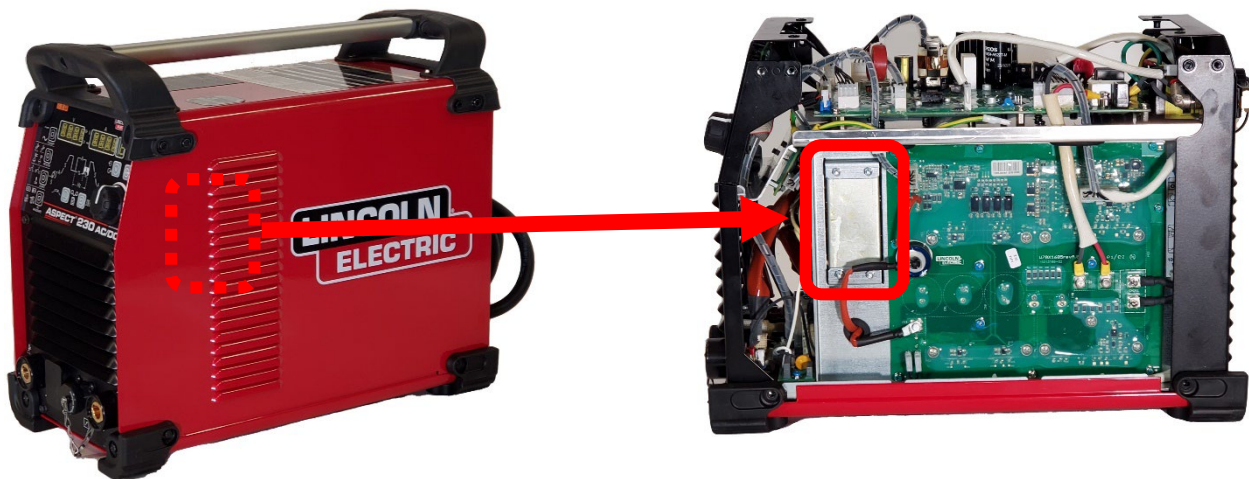

Figure F.1
1. For location of the Transformer refer to Figure F.1.